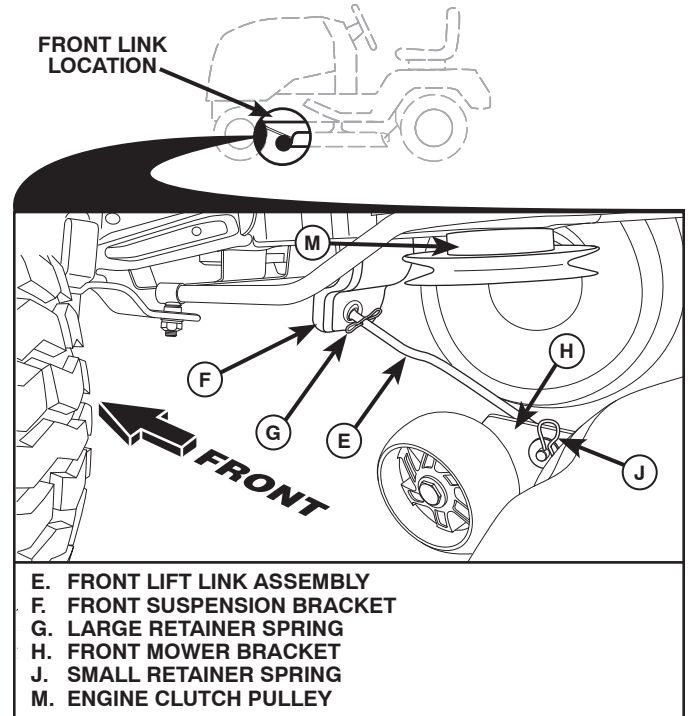

Fig. 33
8. ATTACH FRONT LINK (E) (See Fig. 33)
- From front of tractor, insert rod end of front link (E) through front hole in tractor front suspension bracket (F).
- Move to left side of mower and insert large retainer spring (G) through hole in front link (E) behind front suspension bracket (F).
- Insert other end of link (E) into hole in front mower bracket (H) and secure with washer and small retainer spring (J).